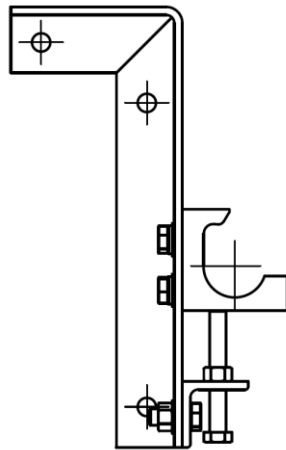

Figure 22 – BT
3. Install the adjuster bracket, adjuster bolt and the clamp block body on each mounting bracket, as shown in Figure 22. The clamp block mounting bolts should be loosely tightened (the blocks need to be able to slide up and down along the slotted holes), with the clamp block positioned so the pole centre is roughly 200mm from the belt surface.